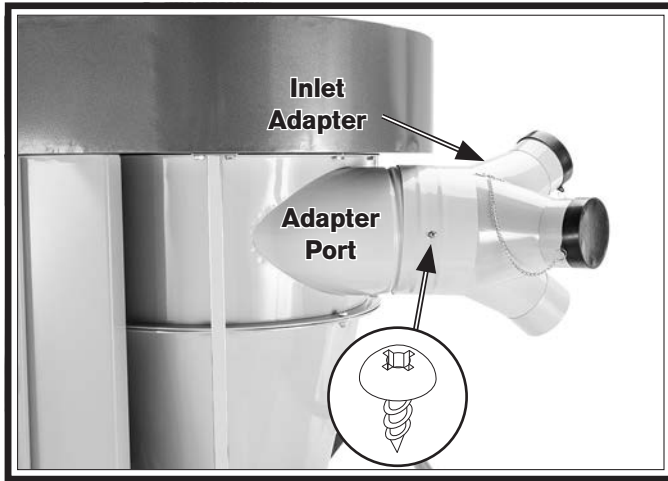

Figure 15. Inlet adapter attached to adapter port.
11. Remove pre-installed tap screw from outlet barrel, then attach inlet adapter to adapter port on barrel with tap screw (see **Figure 15**).